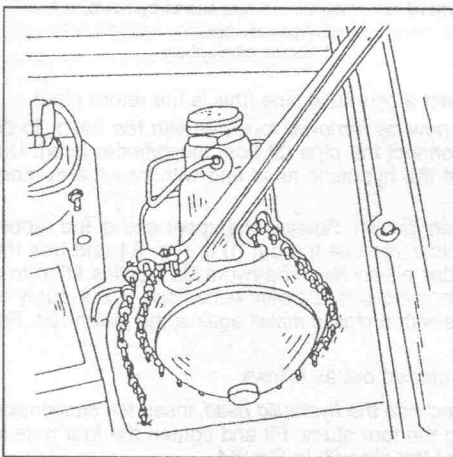

Fig. 6.3. — Remove a suspension sphere with a chain wrench. Tighten the sphere with the hands only.
- Place the chain wrench around the sphere, as shown in Fig. 6.3, and unscrew it.